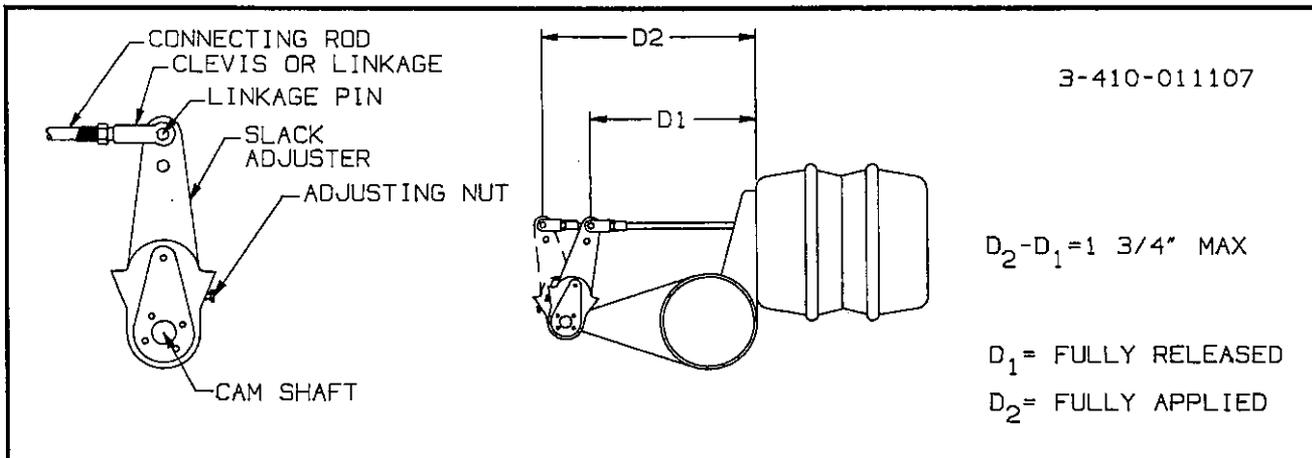

Figure 6-2 Checking Brake Adjustment
b. Measure the distance (D1) from the face of the brake air chamber to the center of the slack adjuster linkage pin (see Figure 6-2).
b. Place a 9/16" box end or socket wrench on the slack adjuster adjusting nut (see Figure 6-2), and push in on the locking sleeve.